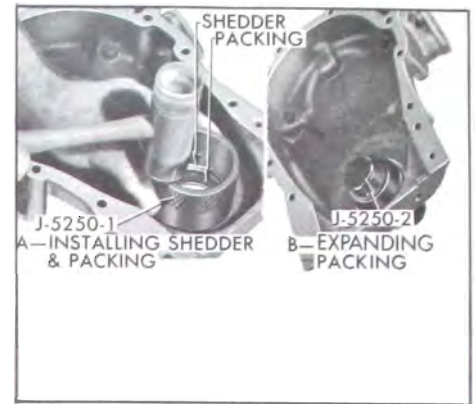

Figure 2-36—Installing Crankshaft Oil Seal
2. Work new packing into the shedder, then drive shedder into recess in timing chain cover, using Installer J-5250-1. See Figure 2-36, View A.
3. Push Packing Expander J-5250-2 through the seal to expand the packing into place and size the opening for the crankshaft. See Figure 2-36, View B. Apply a light coat of vaseline to the packing.